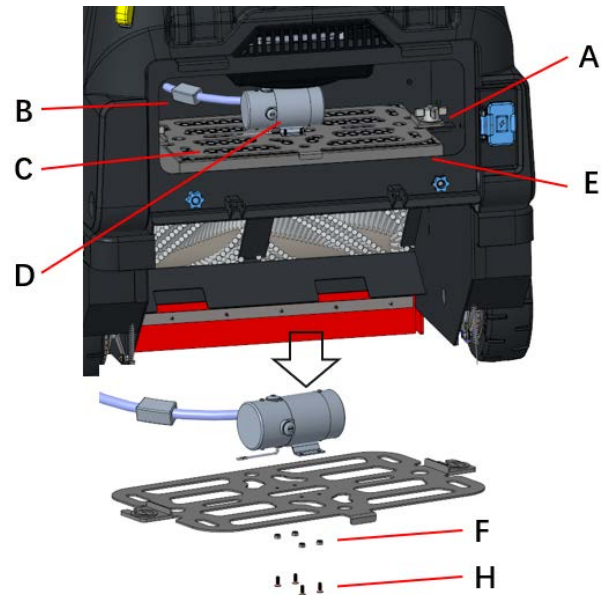

Figure 63
7. Unscrew the knobs (A, Figure 63).
8. Disconnect the filter shaker motor (C, Figure 63) connector (B, Figure 63).
9. Remove the dust filter fixing frame (D, Figure 63).
10. Remove the dust filter (E, Figure 63).
11. Unscrew the screw (F, Figure 63) and nut (H, Figure 63)